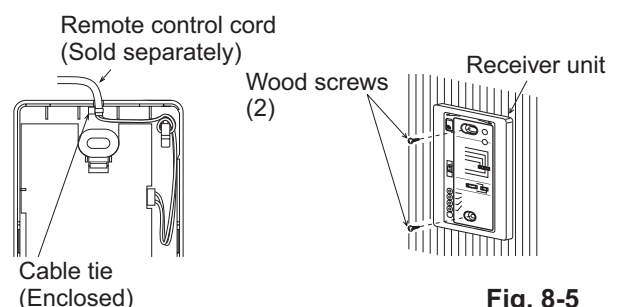

Fig. 8-5
- (5) Shape the remote control cord at the top of the PCB so it fits inside the receiver and after configuring the wiring like it is in Fig. 8-5, attach the lower case. When doing this, arrange the head of the cable tie so it faces side-ways.
- (6) Remove the face plate and use the wood screws (2) to install the receiver unit.
- (7) Use the cord clip that comes enclosed with the remote control cord to fasten it to the wall.
- (8) Attach the face plate.